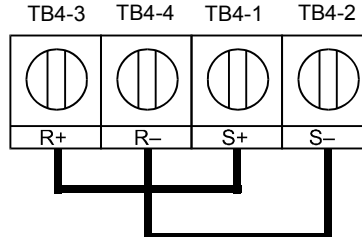

Fig D.3 RS-485 Communication Connection
3. When using RS-485 communication, connect S+ to R+, and S- to R-, on the control circuit terminal board. See Fig. D.3 below.